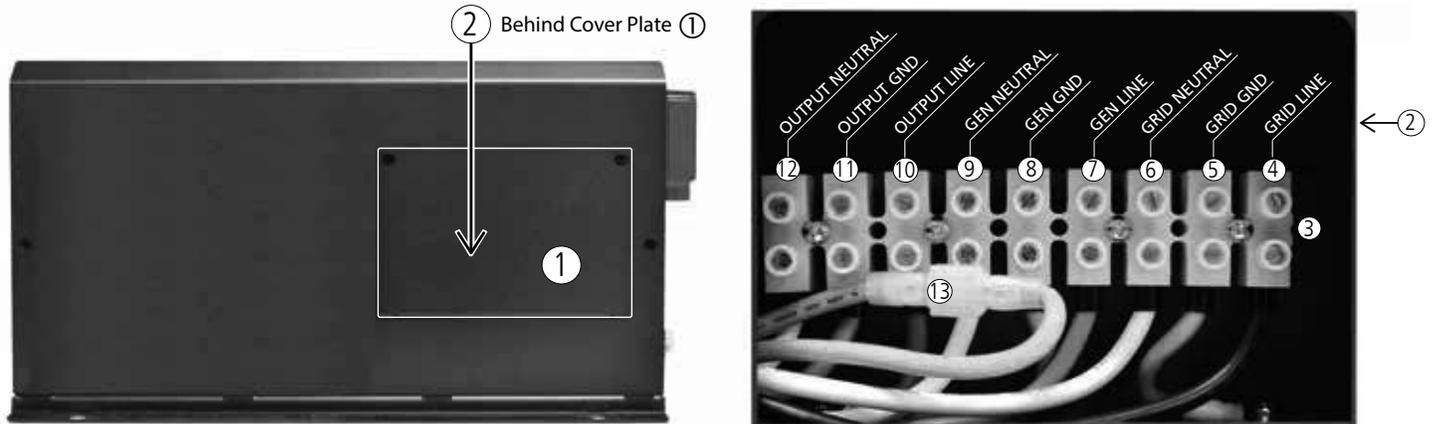

Fig 3.9 AC Input and Output
AC side layout and connection arrangement are shown in Fig 3.9.
LEGEND for Fig 3.9
- **Disabling Neutral to Ground Bond:** In some applications, the Output Neutral may be required to remain isolated from chassis/Ground at all times. For this, automatic Output Neutral to chassis Ground bond can be disabled by disconnecting the Male/Female Disconnect (*13, Fig 3.9*) located in the AC Wiring Compartment.
The AC input and output supply connections are located in a pocket protected by a cover with a removable front plate (1,2 Fig 3.9). Three 27.8mm / 1^{3/32}" diameter holes (10A to 10C, Fig 2.1) have been provided for cable / conduit entry. Remove the caps covering the holes and install appropriate 3/4" Trade Size Fitting for routing the AC input and output wires/conduits.
Screw down type of terminal block (3, Fig 3.9) is used for connecting the wires. The hole size for wire entry is 6 mm and set screw size is M4. It can accommodate conductors with solid or multi-stranded wire size range of AWG #6 to AWG #20 (13.3 mm² to 0.5mm²).